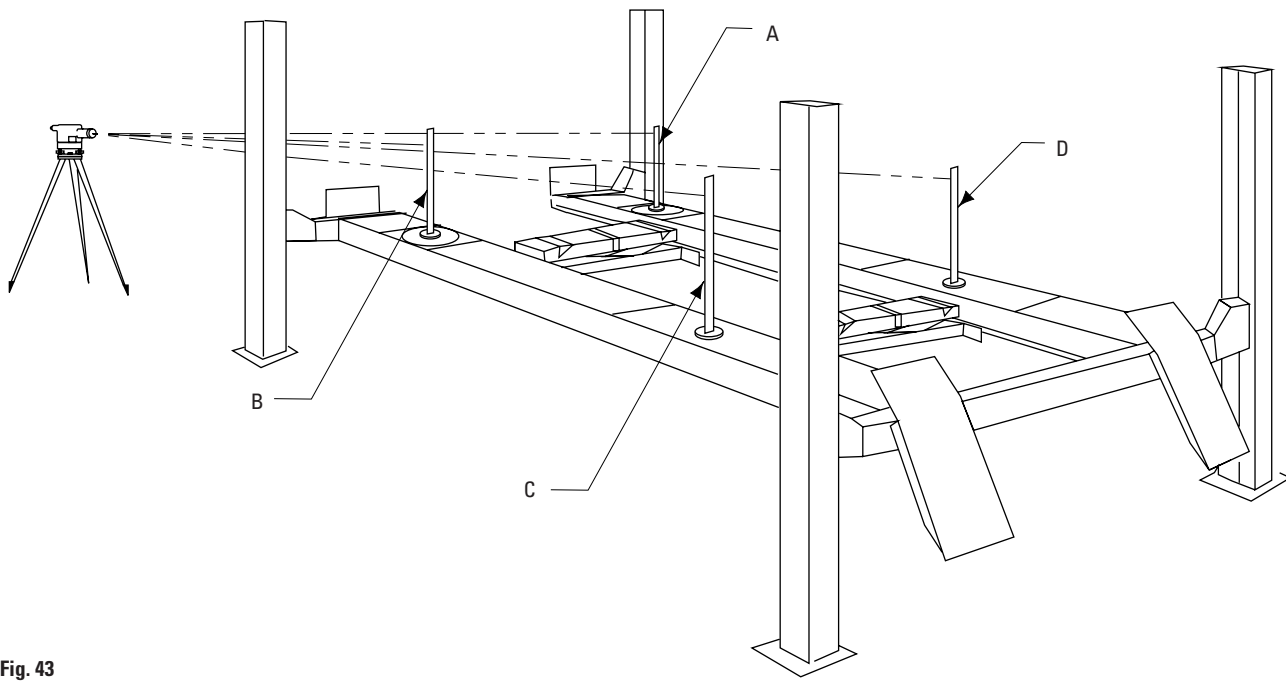
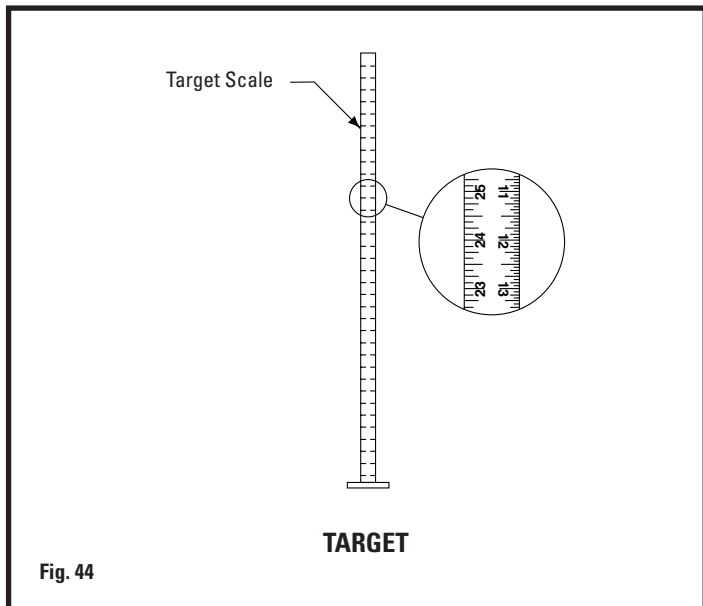

Fig. 43
Fig. 44
- D. Beginning with "A" position, Fig. 43, sight the Level to the target and mark the number or the graduation on the inch scale of the target that aligns to the crosshairs of the Level, Fig. 44.
- E. Next, move the target and place it on the turning radius gauge at point "B", Fig. 43.
- G. Adjust the adjustment nut on the locking latch plate adjustment stud at the top of the column at "B", Fig. 43, by loosening the jam nut and turning adjustment nut until the crosshairs of Level align to reference mark on the target scale.
- I. Always recheck the level of the runways to be sure all four locking latch plates are adjusted correctly. Start at point "A" and recheck level at points "B", "C", and "D", Fig. 43. Readjust, if needed. The runways are now level at all four points.